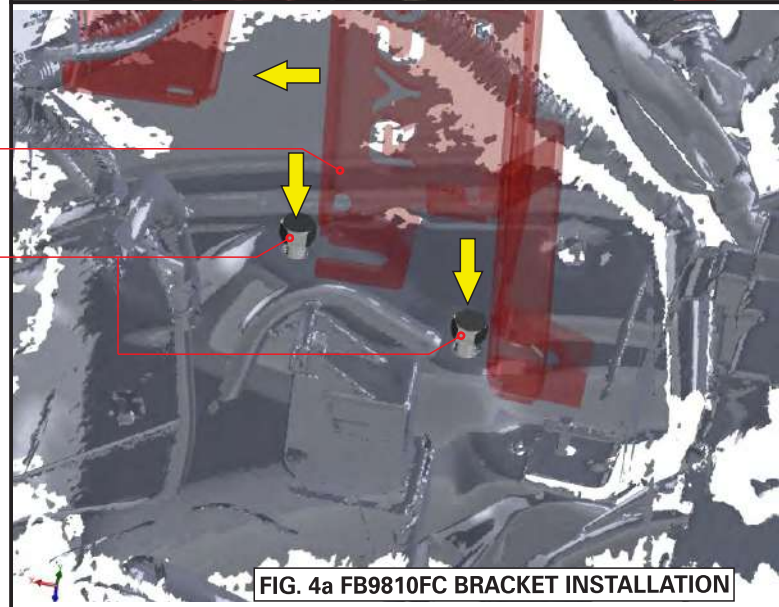

FIG. 4a FB9810FC BRACKET INSTALLATION
7. Mount the Ryco FB9810FC bracket using the same mounting points and bolts from the OE bracket you just removed: Half screw in 2 of the OEM M8 bolts in to the base mounting points as shown in Fig. 4a. (Screw in enough to allow Ryco FB9810FC bracket to slide in under the bolt heads).